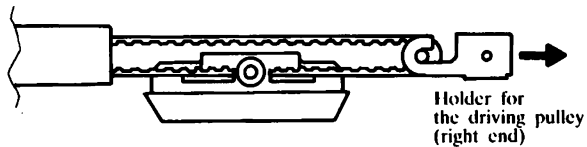

Fig. 76
- (5) Pull the holder for the driving pulley out. Then the shuttle and the driving belt will come out. (Refer to Fig. 76)